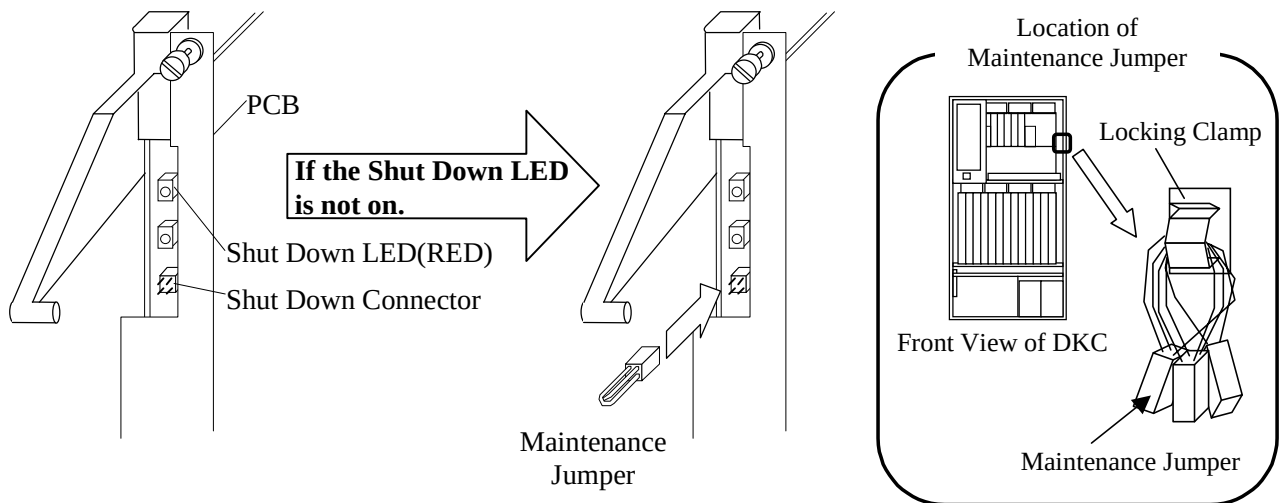

Fig. 4.1.3-1 Shut Down LED
- a. Confirm that Shut Down LED is on. (Fig. 4.1.3-1) If the LED is not on, connect the Maintenance Jumper to the Shut Down Connector.